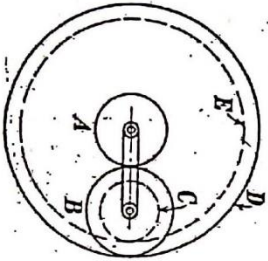

Fig.2
4. A epicyclic gear train shown in Fig.2 has a pinion A had 20 teeth and is rigidly fixed to the motor shaft. The wheel B had 40 teeth and gears with A, and also with annular fixed, wheel D. Pinion C had 18 teeth and is integral with B (C and B being a compound gear wheel). Gear C meshes with annular wheel E, which is keyed to the driven output machine shaft. The arm rotates about the same shaft on which A is fixed and carries the compound wheel B and C. If the motor runs at 100 r.p.m., using tabular method, find the speed of the machine shaft. Determine the torque exerted on the machine shaft if the motor develops a torque of 180 N-m.